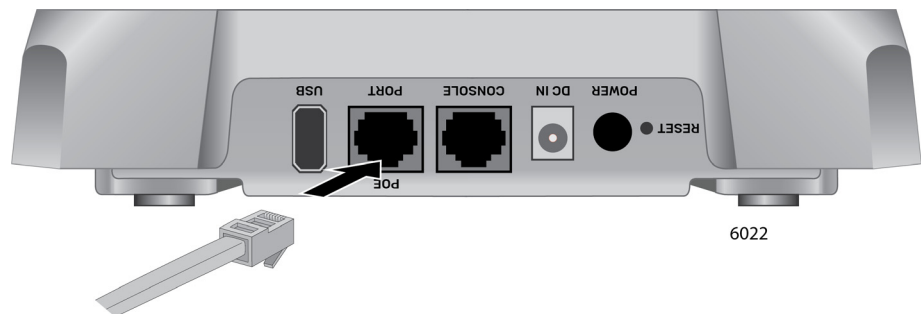

Figure 17. Connecting an Ethernet Cable to PORT (POE)
1. Connect an Ethernet cable into PORT (POE). The cable requirements are in “Cable Requirements” on page 16. Refer to Figure 17.